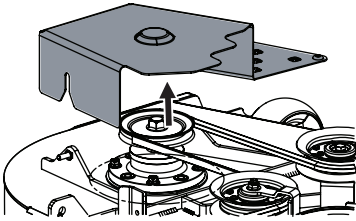

Figure 55
- Remove the belt covers from the deck (Figure 55).